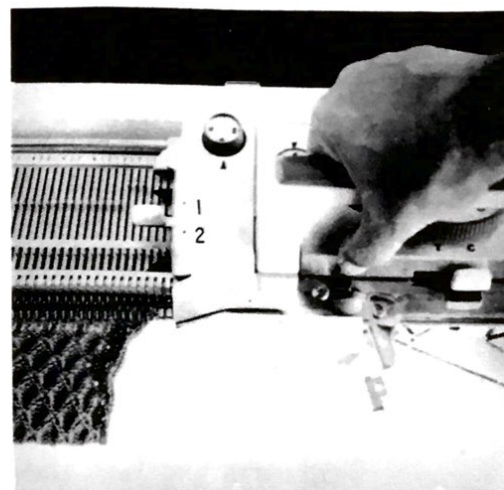

Fig. 32
\* **1st row** Carriage on right. Open **both** Feeders (out of action position) as shown in Fig. 32. Push in the Row Counter Trip Arm so that the Row Counter will not register.
Push back into Position (B) the end needles opposite Nos. 1, 2 and 3 on the N.S.G.S. Move carriage from right to left at the same time pushing in the leading Needle Forwarding Lever (left hand lever). (Fig. 32)